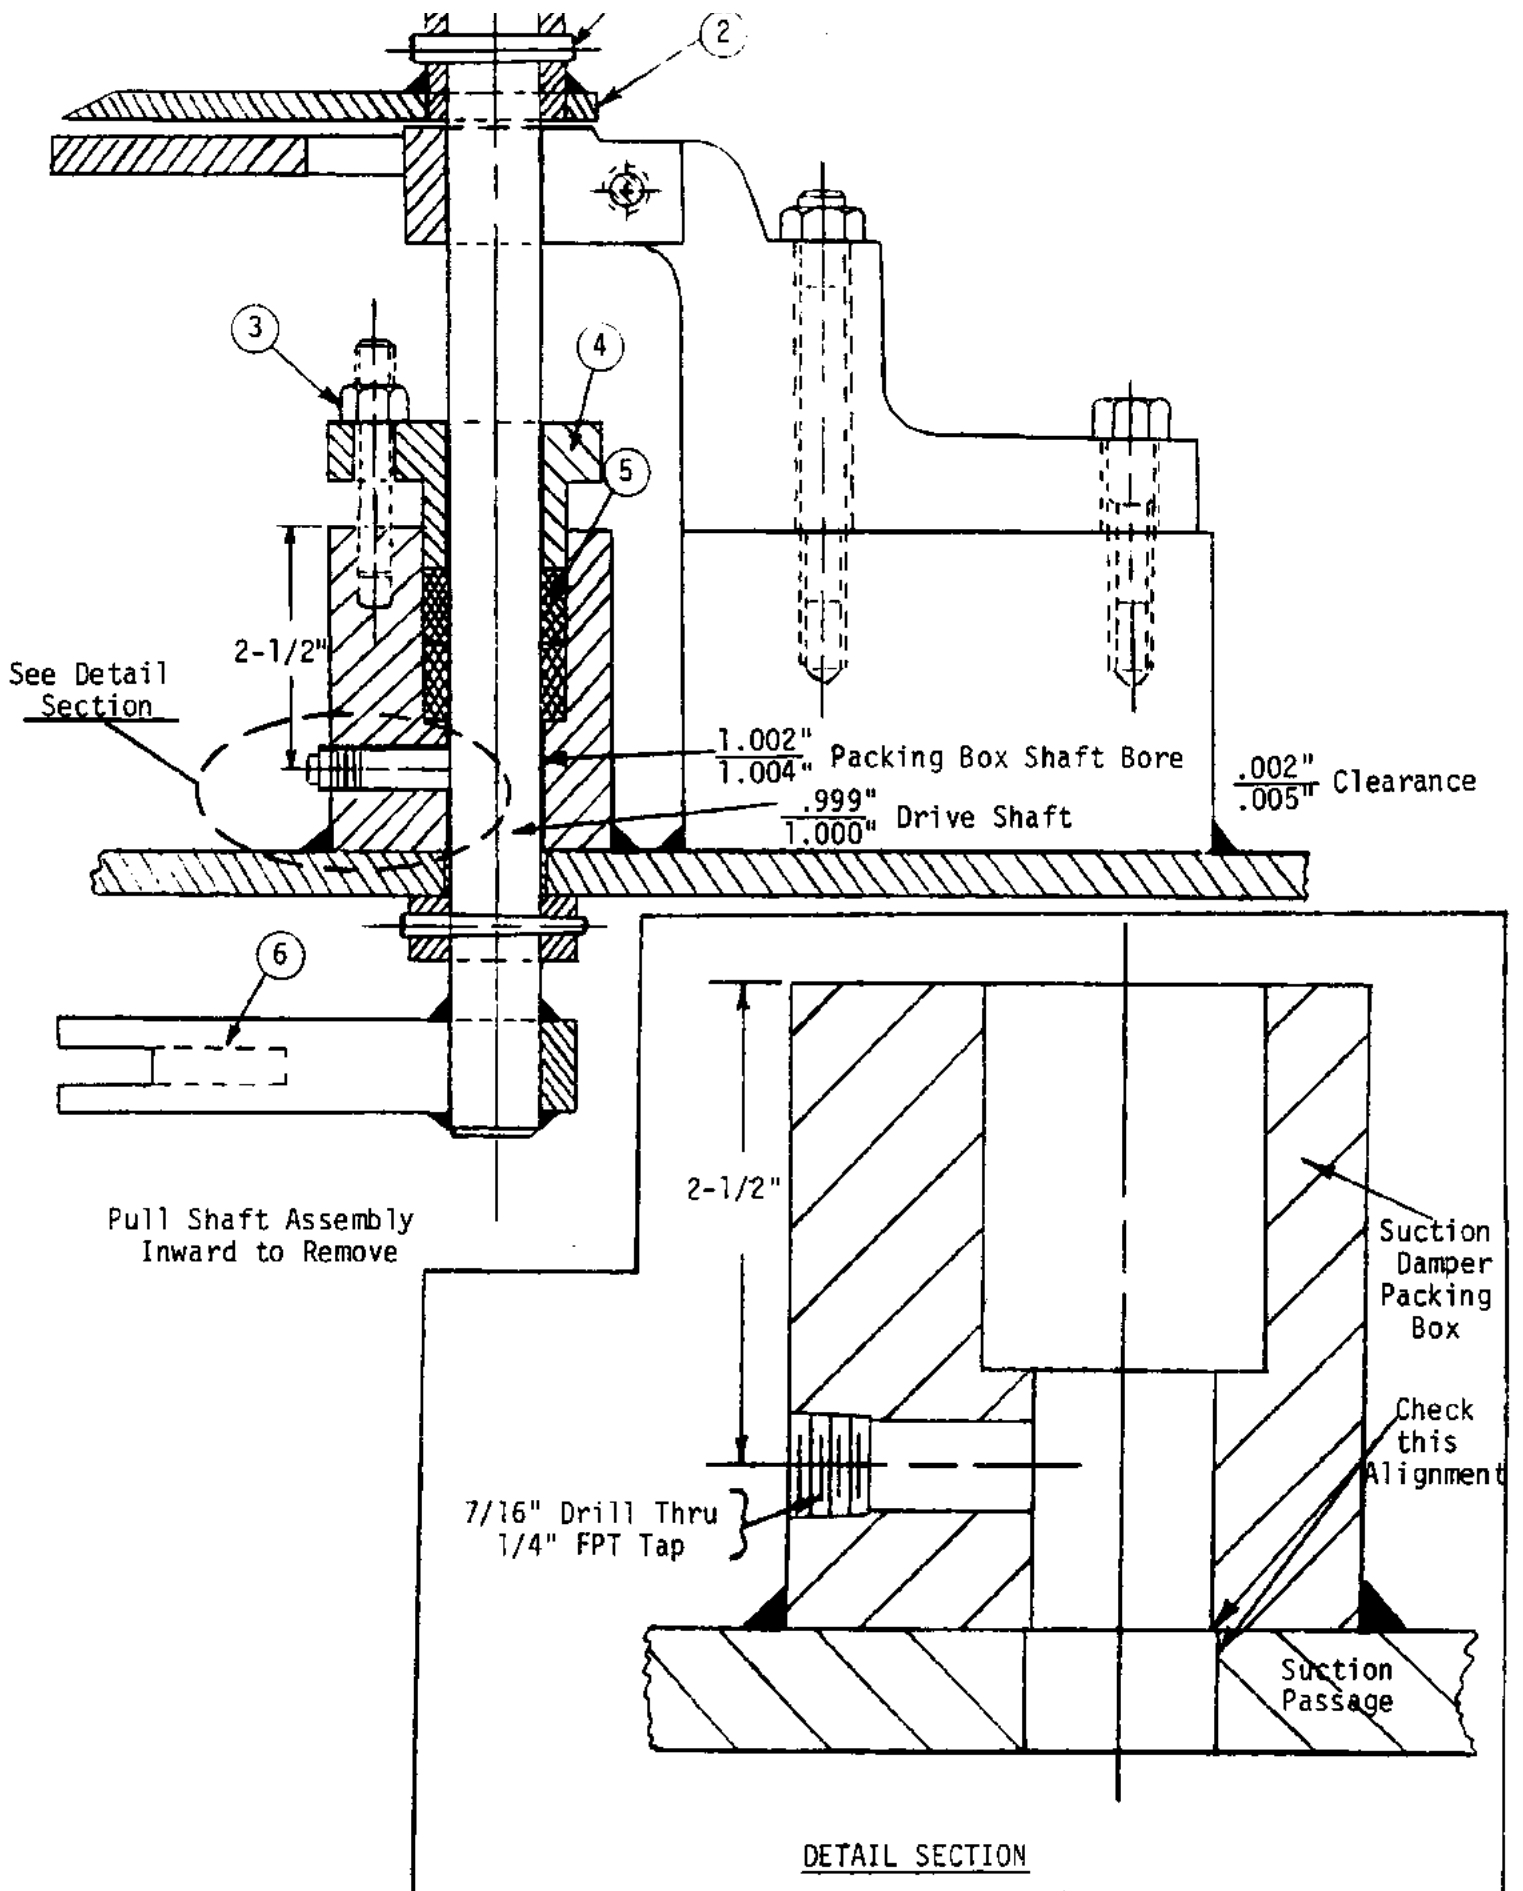

Fig. 1
To correct this condition, the following procedure is recommended (See Figure 1).
- E) With everything removed from the stuffing box, lay out and drill and tap as shown in the detailed section of Figure 1. Clean out any burrs on the break thru.